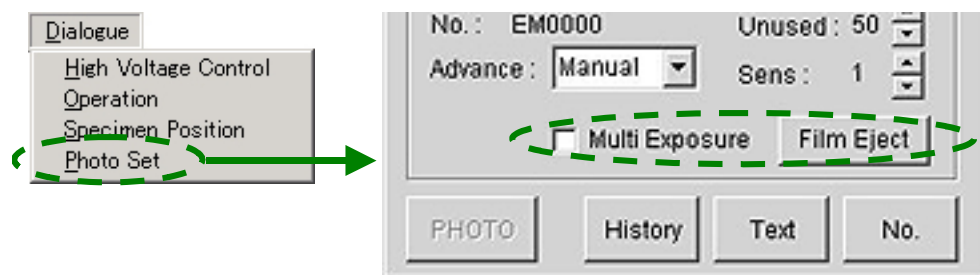

Fig. 5.48 Film Camera Property window(Multiple-Exposure mode)
1. Check Multi Exposure in the **Film Camera Property** window to enter the multiple-exposure mode (☞ Fig. 5.48).
2. Photograph the image by pressing the PHOTO switch (R1-⑧) to move the film to the photographing position, and pressing the PHOTO switch again.
3. Press the PHOTO switch (R1-⑧) once again.